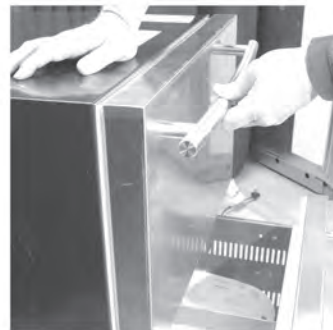

Figure 6
8. Check drawer or Proper fit and seal, see figure 6.